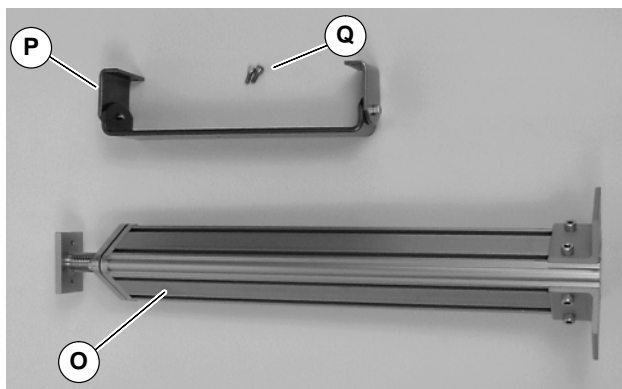

Figure 8
1. Gather components (Figure 8).